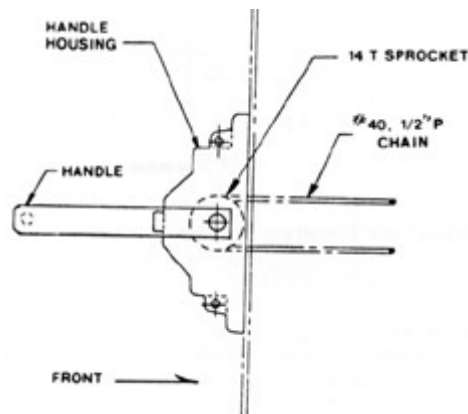

Figure 3
4. For the operating-handle sprocket location, select the shorter length of chain furnished. (a 24-inch length of #40  $1/211$  pitch chain is suggested for switches with main contacts at top. **Remove chain links accordingly.**) Pass the chain around the handle sprocket such that, with the handle in mid-position, the free ends of the chain are about the same length when extended. See Figure 3 located on page 4. Place the handle in the latched-closed position. Handle "Up"